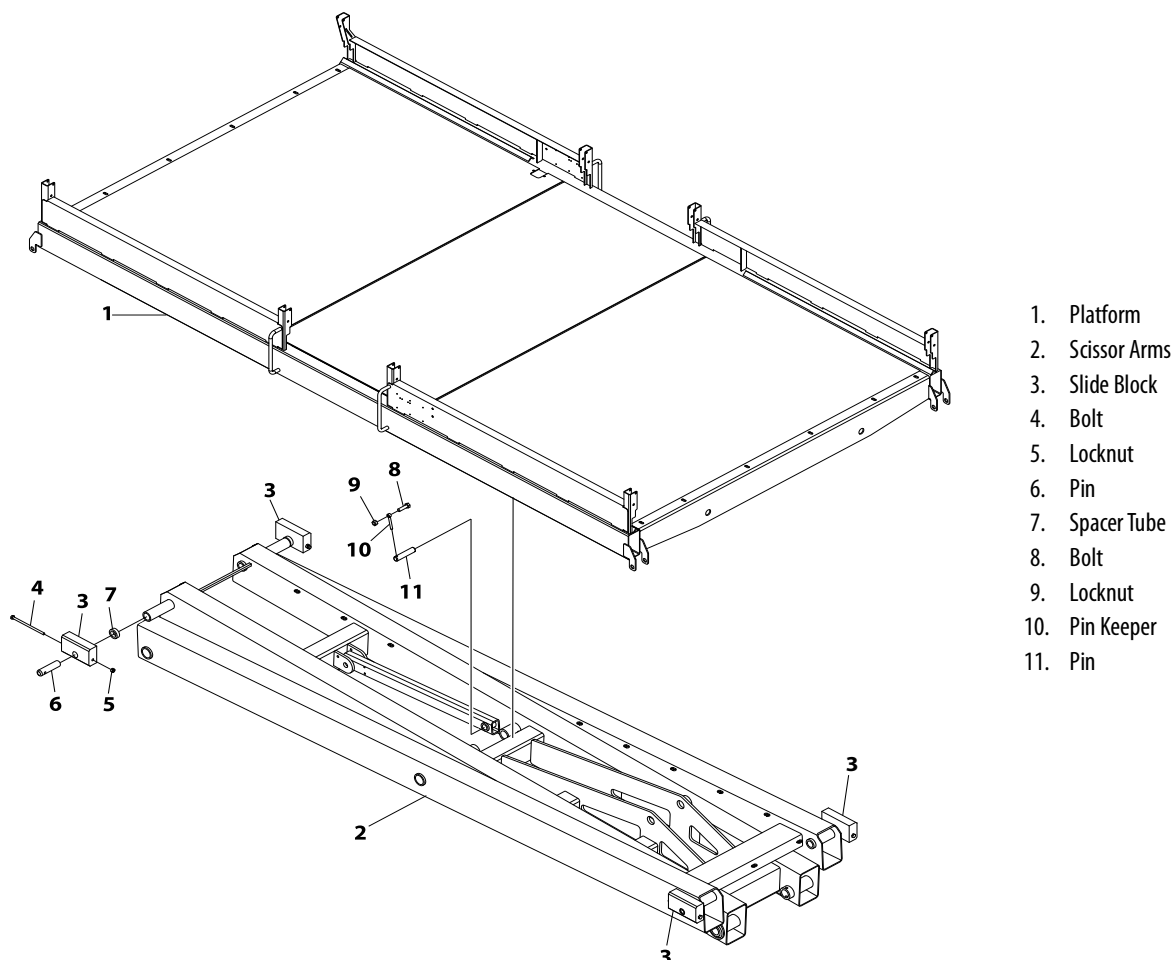

Figure 3-34. Platform Removal
1. Remove platform (refer to Figure 3-34.).
1. Remove platform (refer to Figure 3-34.) and lift cylinder (refer to Figure 3-37.).
1. Remove platform (refer to Figure 3-34., Platform Removal).